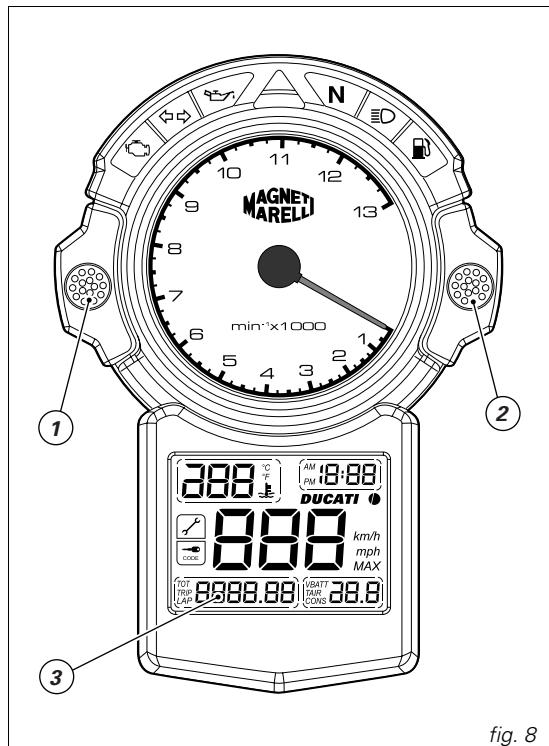

fig. 8
Hold down the button (1, fig. 8) for at least 2 seconds.
To select AM/PM, press button (2, fig. 8). Press the button (1) to confirm, then go on to set the hours.
Select the TRIP indicator on the display (3, fig. 8).
The engine control unit transmits the correct vehicle model and unit measurement information automatically for the instrument panel to display. To force a change of these parameters, turn the key from OFF to ON while holding down both buttons (1, fig. 8) and (2, fig. 8). Press the button (1) to scroll through the available settings. To store your selection, hold down button (2) for 5 seconds, until the word "OFF" appears on the display. Turn the key switch to the OFF position.